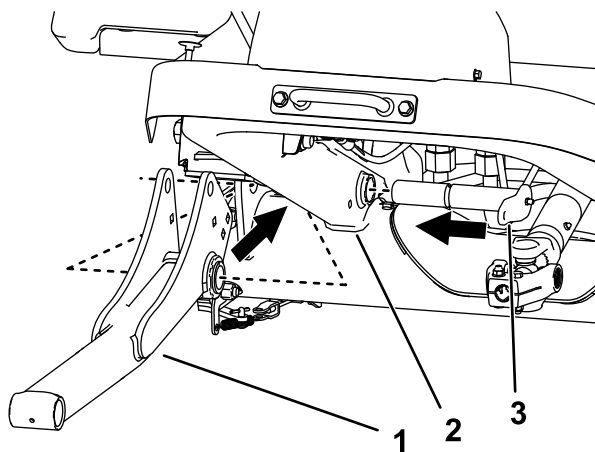

Figure 10
2. Install the lift arms and large pins to the machine frame (Figure 10).